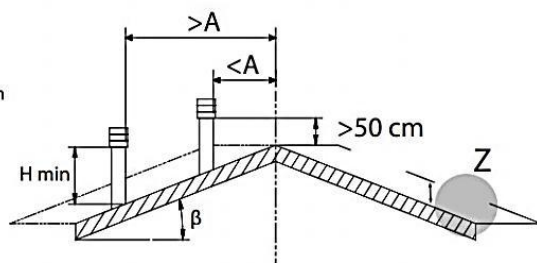

Figure 15
A – see figure 15 and chapter 4.5.4.
The chimney must be **at least 0,5 meters remote above the roof ridge** (see *figure 15*).
- installed **to enable proper dispersion and dilution of combustion products outside the reflux zone** (backflow) because the counter pressure occurs here. Therefore, it is necessary to adhere to limitations listed in *figure 15*,